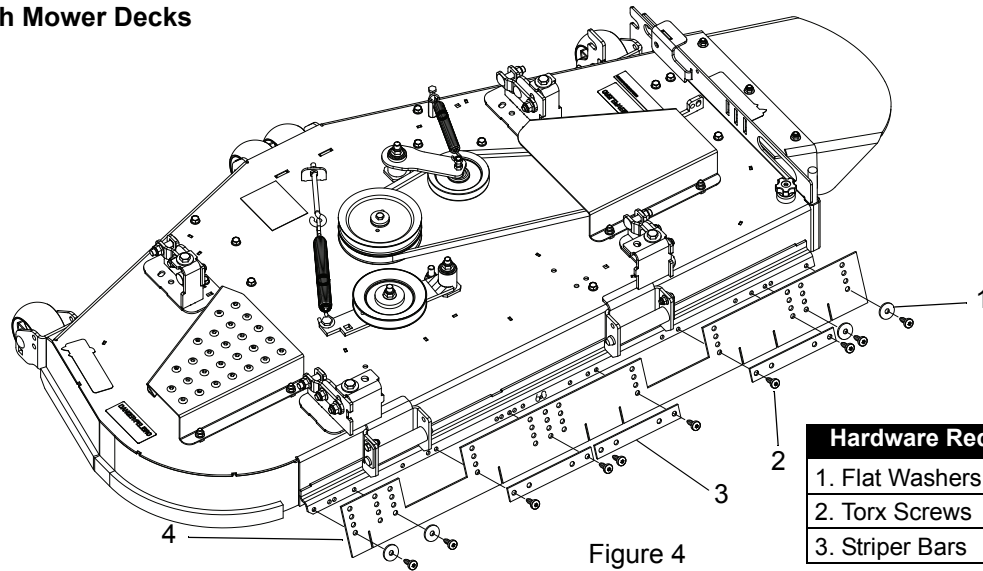

Figure 4
- 60-inch mower decks – figure 4